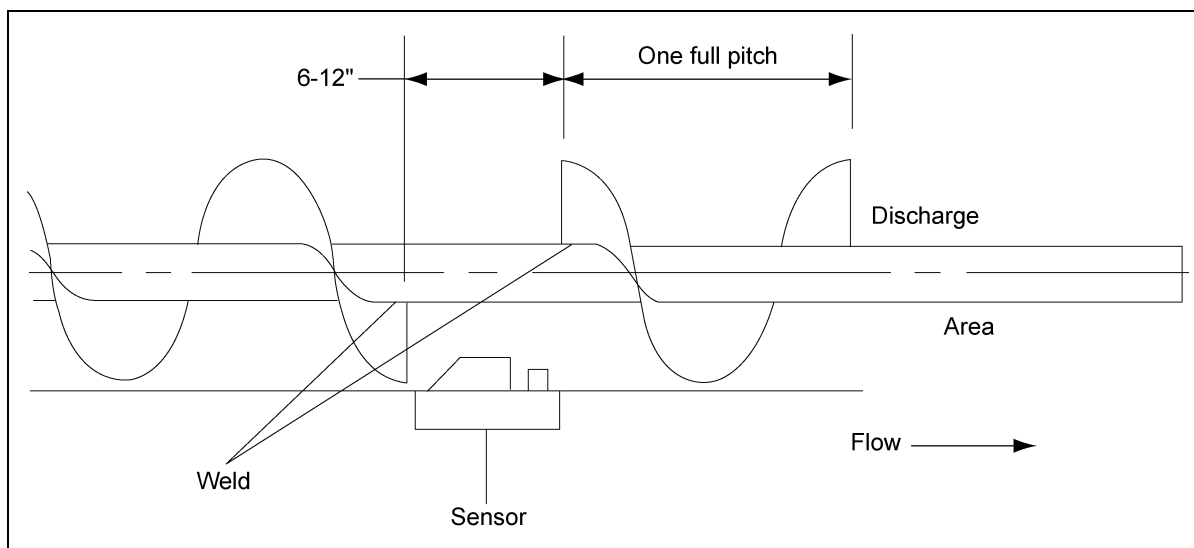

Figure 4C
1. Look at the discharge tube and determine where the sensor can be located. (See Figure 4C.) There must be at least one full pitch of flighting on the discharge auger before and after the sensor to move the grain over the sensor blade.